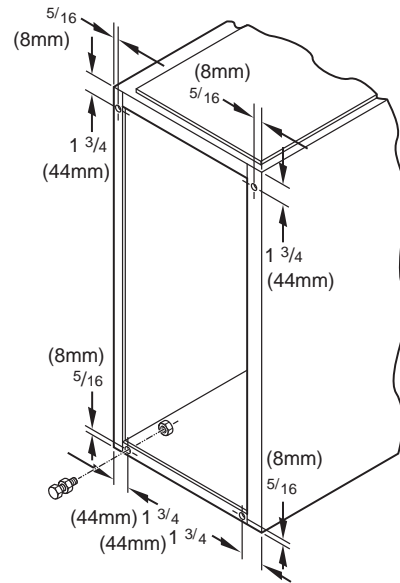

Fig. 16 – Leveling Legs
In upflow position with side return inlet(s), leveling legs may be used, see Fig. 16. Install field-supplied, 5/16 X 1-1/2 in. (8 X 38 mm) (max) corrosion-resistant machine bolts, washers and nuts.
1. Position furnace on its back. Locate and drill a hole in each bottom corner of furnace, see Fig. 16.